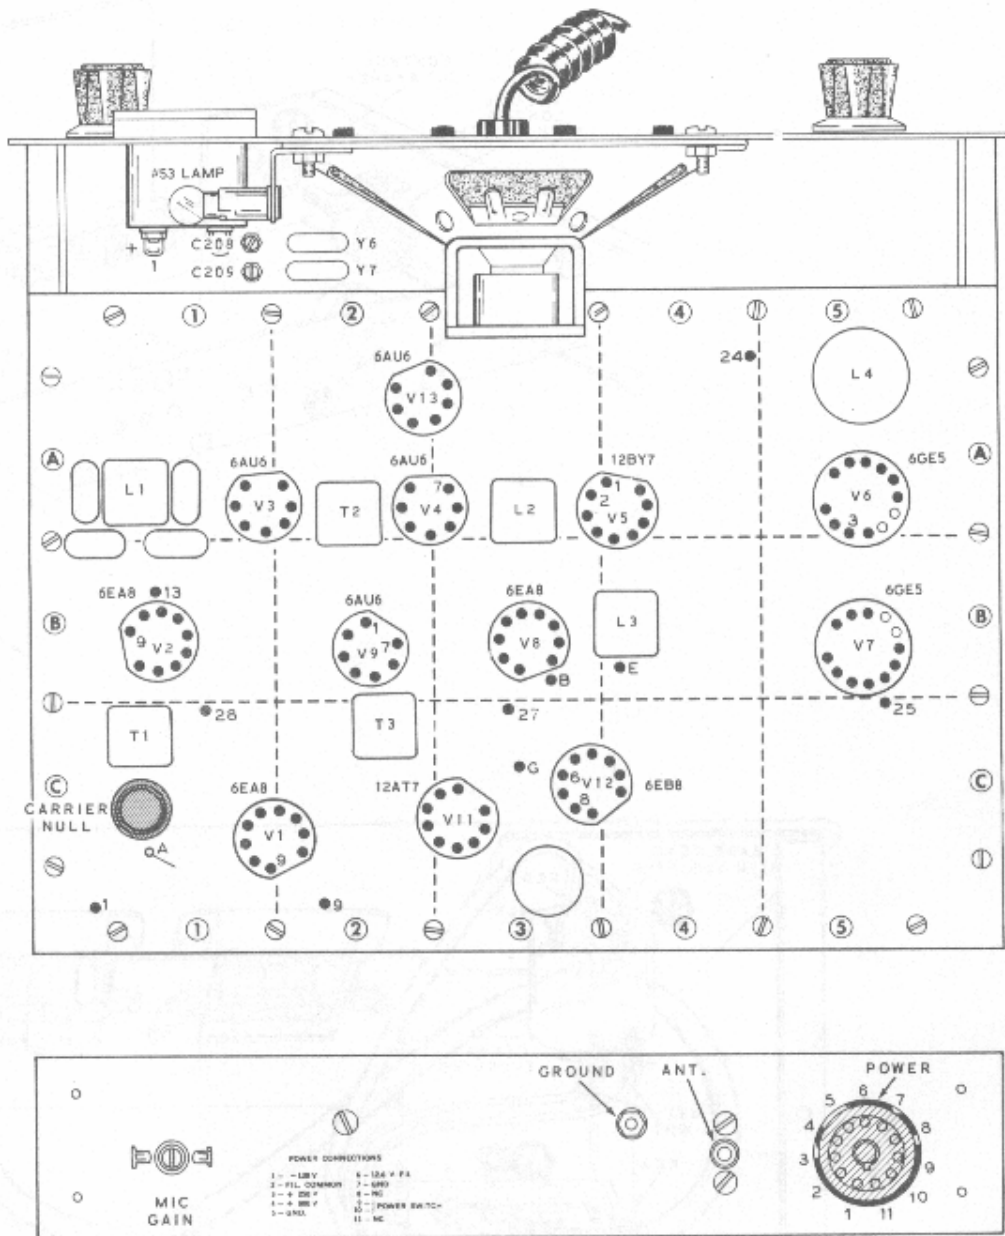

FIGURE 1
Refer to Figure 1 (fold-out from Page 32) for the test point locations.
- () Refer to Figure 1 (fold-out from Page 32) and install the tubes in their sockets. The tube numbers are lettered on the circuit board. Support the circuit board from underneath while installing the tubes to prevent damage to the circuit board.